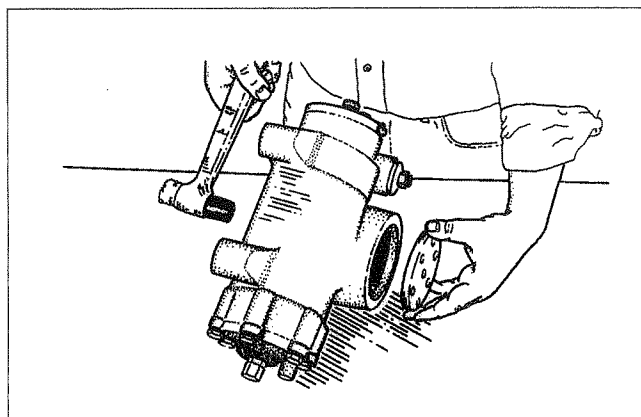

Figure 29
6. Using a soft hammer, tap on the end of the sector shaft to remove the cover and sector shaft (Figure 29).